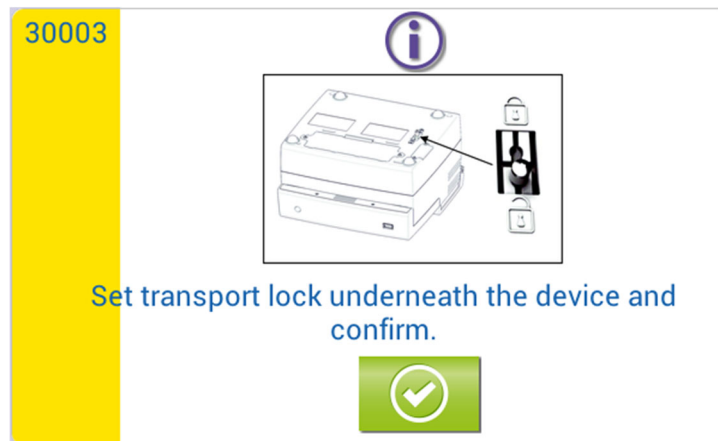

Figure 9
- A new message instructs the user to set the transport lock (**Figure 9**)